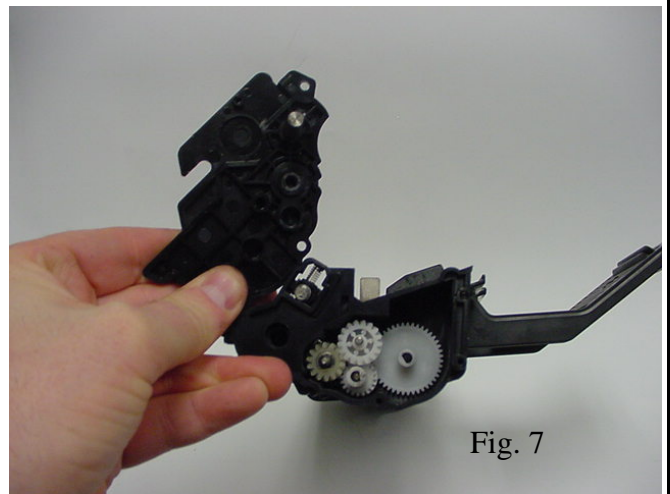

Fig. 7
7. Use a small flat screw driver to pry up the end cap to remove it (Fig. 7). Set the toner hopper to the side.